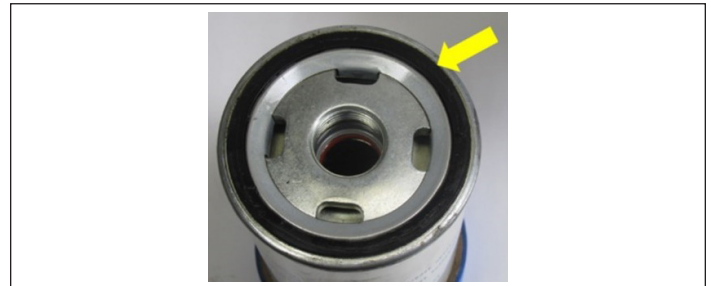

Figure 9 – Lubricate O-ring
3. Lubricate the o-ring of the new cartridge and hand tighten the new cartridge, adding an extra quarter turn. See Figure 9.